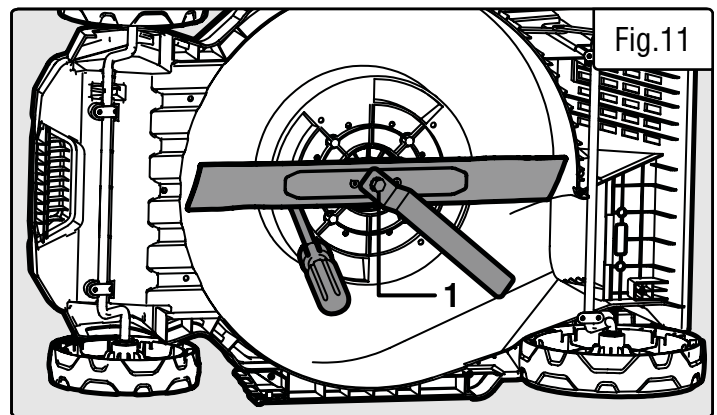

Fig.11
2. Use a screwdriver (not included) to hold the blade in place while you remove it. Insert the screwdriver into one of the holes on the mower body and rest the blade against it as shown in Fig. 11.
3. Use a 16mm wrench or socket wrench (not included) to remove the blade bolt (Fig. 11 - 1).